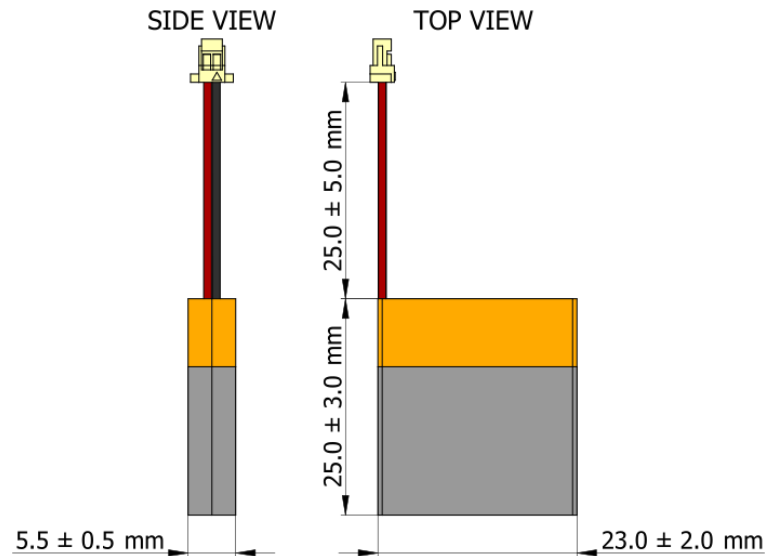

Figure 1: 290mAh Battery Drawing & Dimensions
1.1 Outline Dimensions: See attached drawing, Figure 1, for dimensions.